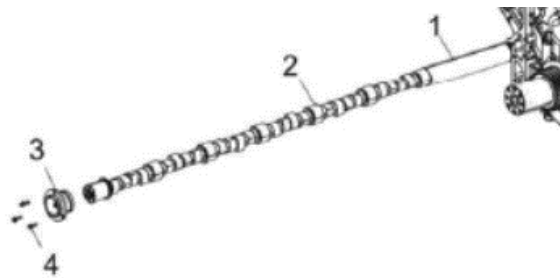

Figure 122.
- Use the camshaft installation tool (Figure 122, Item 1) if necessary.
5. Install the camshaft (Figure 122, Item 2), gradually rotating it as you insert it.
6. Apply a film of oil to the bearing bore. Fit the bearing (Figure 122, Item 3), taking care to position the lubrication groove at the top at 12 o'clock.
7. Apply a film of Loctite 242 to the fasten bolts (Figure 122, Item 4) and tighten to a torque of 29 lb-ft.